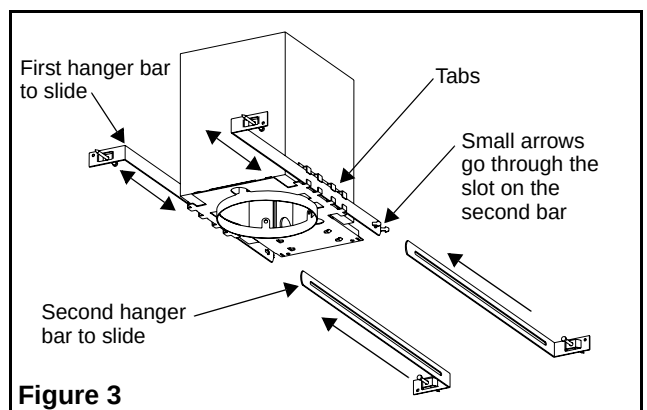

Figure 3
- a. Slide the hanger bars through the tabs on the back box. For each side, first slide the bar that has two small arrows at its end facing outside the box. Then slide the one with a long slot on top of the first one. The two arrows should go through the long slot on the second bar. Place the assembly between the framing members. Align the open round surface of the box where the finished surface of sheet rock will be and nail bars to the framing members (see fig. 3).
- Slide the hanger bars through the tabs on the back box (see fig. 3). For each side, first slide the bar that has two small arrows at its end facing outside the box. Then slide the one with a long slot on top of the first one. The two arrows should go through the long slot on the second bar. Place assembly on top of grid members.